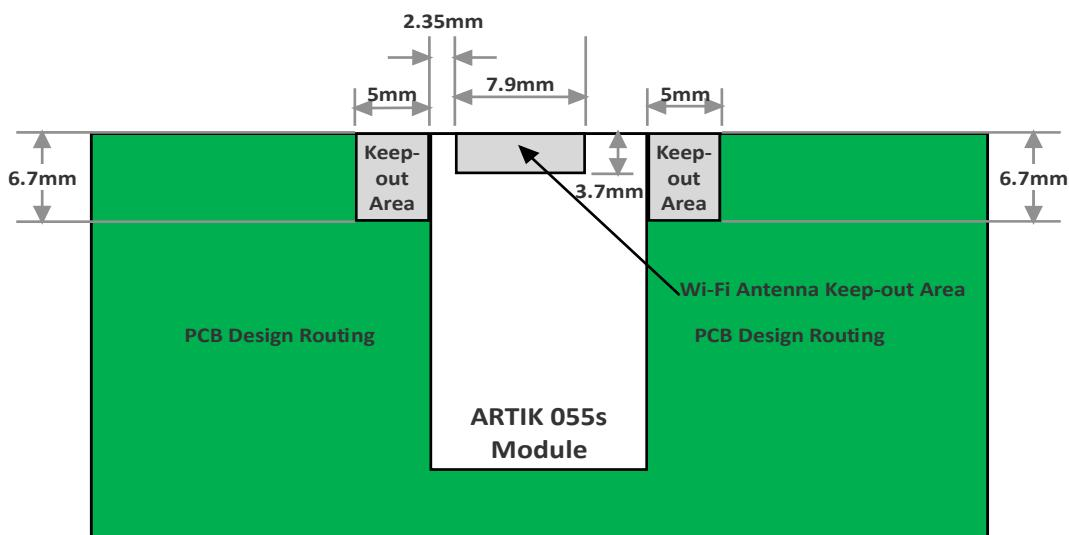

Figure 6. Module Placement Restrictions
- To avoid severe Wi-Fi radiation loss, Samsung Semiconductor, Inc. strongly recommends allocating a “No PCB Routing or Power Planes” metal-free area of at least $7.9 \times 3.7\text{mm}$ in the Wi-Fi Antenna keep-out area underneath the module, and component keep-out areas of $5 \times 6.7\text{mm}$ (all layers) next to the on-module antenna, as shown in Figure 6.